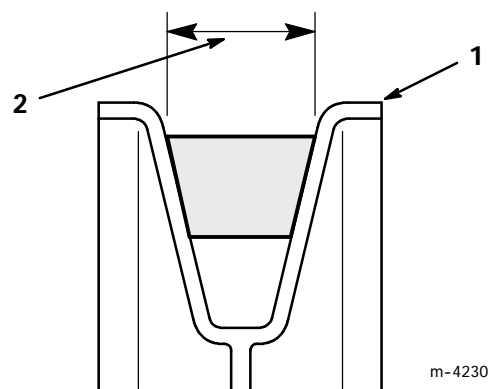

Figure 11
7. Make certain that the wide side of the PTO drive belt is toward the outside diameter of **all (four) pulleys** (Fig. 11).